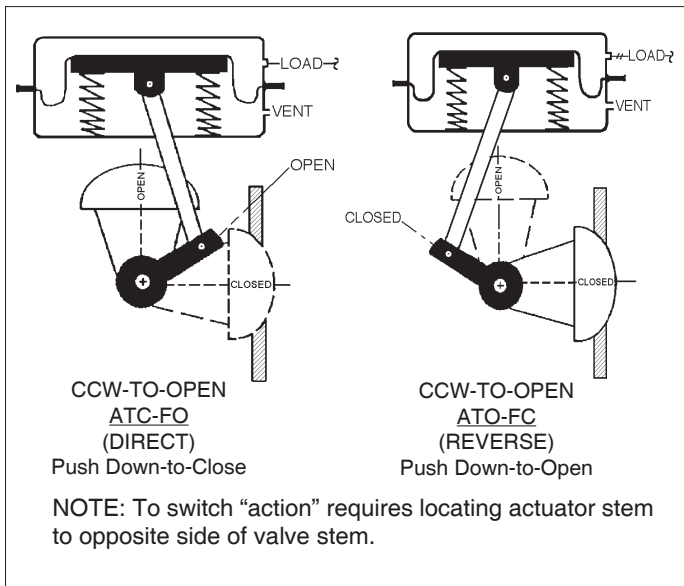
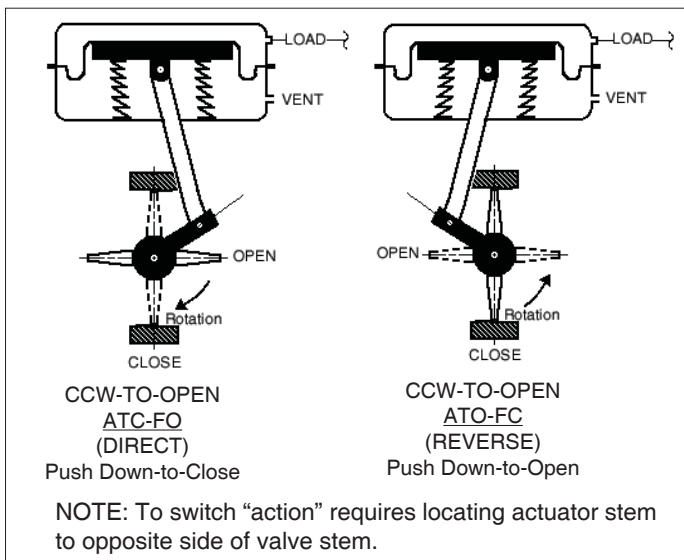

Figure 10
Figure 11
- a. Moving lever arms (5) from left side of valve’s stem (Ranger (7)) (Premier (3.2)) to right side, or vice versa. This is accomplished by removing actuator assembly (AA) from body assembly (BA) and rotating actuator (AA) 180° about the actuator’s stem linkage (8) (9) (10) (43) (44). See Figure 10 and Figure 11.
- b. Rotating plug (Ranger (6)) or disc (Premier (3.1)) by 90°; ie. from “closed” position to “open” position, or vice versa.
- c. Reconnecting actuator (AA) to body (BA) with lever arms (5) also rotated 180°.